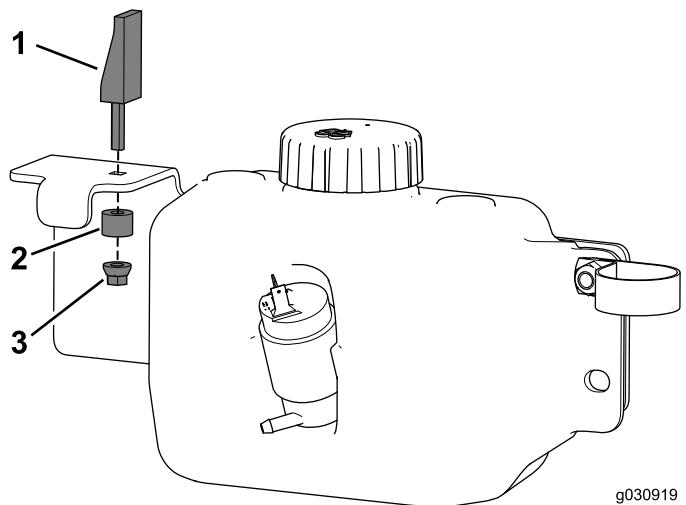

Figure 35
4. Install the swell-latch assembly to the tank mount (Figure 35).